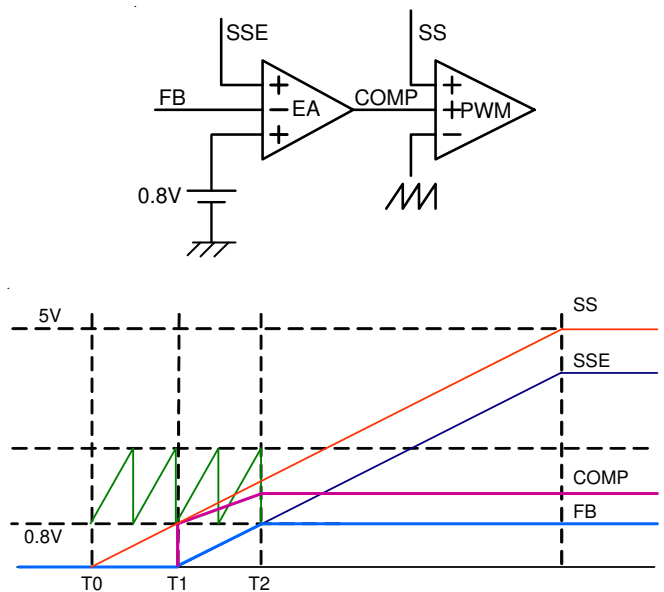

Figure 1. Timing diagram of softstart
The behavior of RT9232B Soft-Start can be simply described as shown in Figure.1 below; and the Soft-Start can be sliced to several time-frames with specific operation respectively.
The RT9232B initiates the softstart cycle as shown in Figure 1 when POR function is OK. An internal $10\mu A$ current source charges an external capacitor on SS pin (C_{SS}) to $5V$. The softstart function produces an SSE signal that is equal to $SS - 0.8V$. Error Amplifier (EA) and PWM